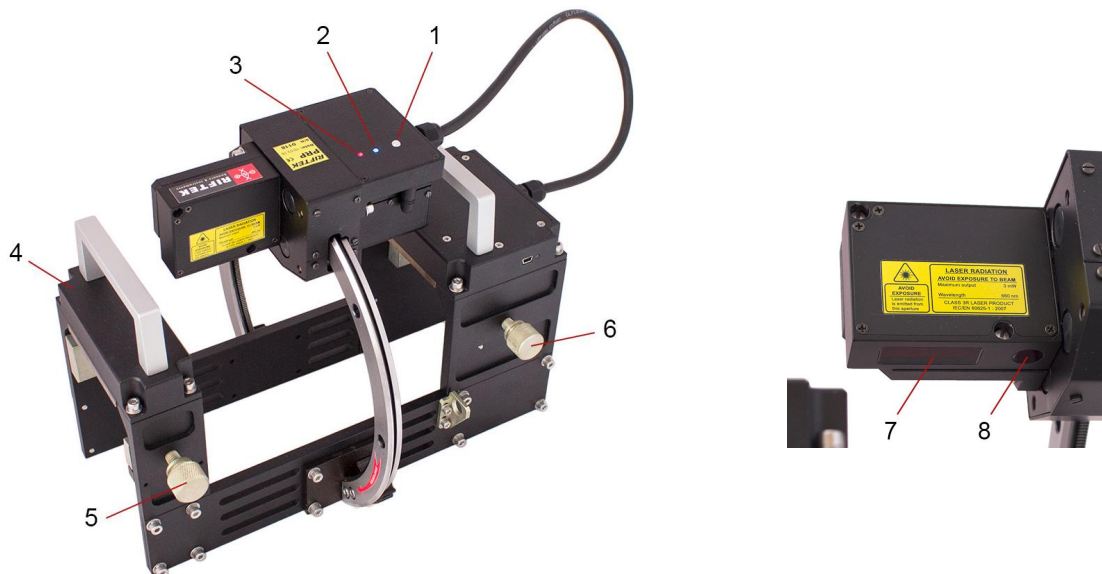

Figure 2
- Switch on the laser module by pressing the button (1), Fig. 2.